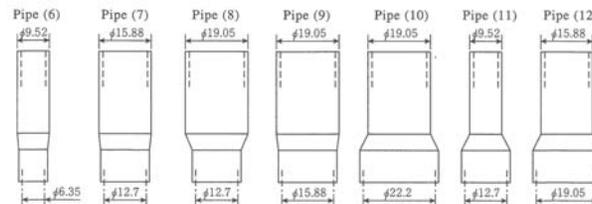

Fig. 2 (liquid pipe)
- Fit pipe cover (4) to liquid pipe (thin) (2) to attach it
- Use heat insulator sealing tape (procured at local site) to seal the butted portion of pipe cover (4) (see Fig.2).
- Process gas pipe (thick) (3) in the same way as liquid pipe (thin) (2).